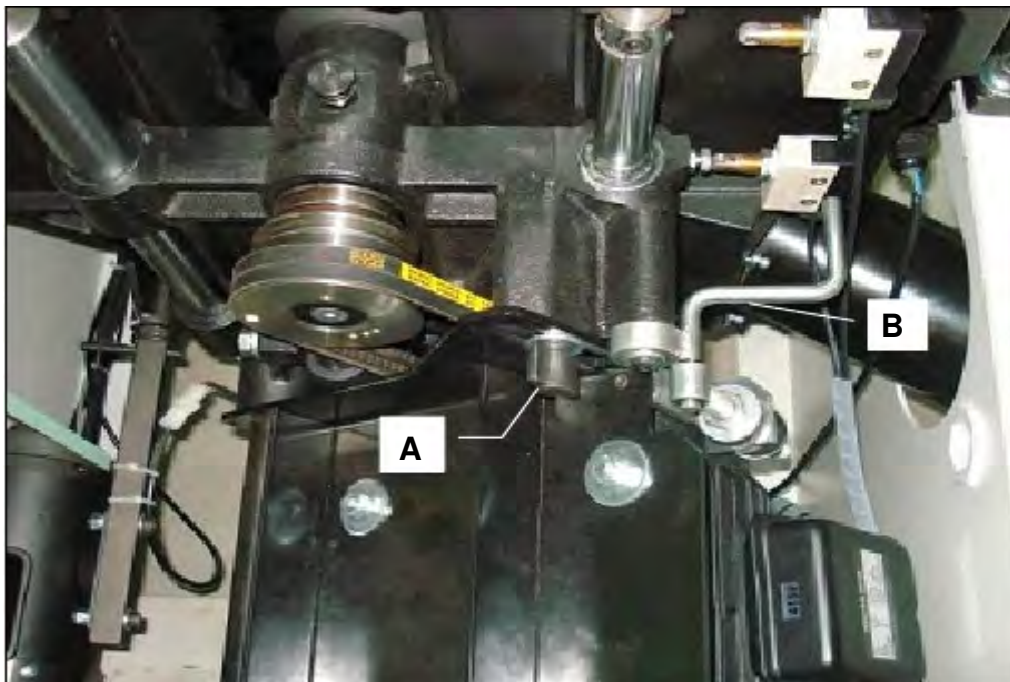

Figure 4-4.1
4. Loosen knob **A**(Fig. 4-4.1)
5. Lift lever **B**(Fig. 4-4.1) of belt stretcher to the end of stroke, then tighten knob **A**(Fig. 4-4.1)the belts will slack and can be replaced
7. Loosen knob **A**(Fig. 4-4.1)
8. Move lever **B**(Fig. 4-4.1) of belt stretcher to initial position (which is totally down) to stretch the belts
9. Tighten knob **A**(Fig. 4-4.1)